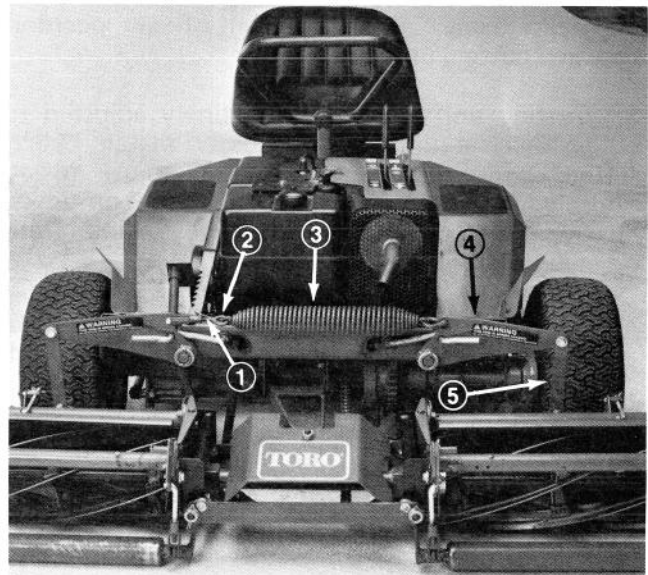

Figure 31
**FRONT COUNTERBALANCE SPRING** is under extreme tension when arms are extended. **GRASP SUPPORT ARMS** when releasing links from cutting units (Fig. 31).
1. Decrease spring tension; loosen jam nut securing hook eye (Fig. 31).
2. Turn hook eye clockwise (Fig. 31).
1. Increase spring tension; loosen jam nut securing hook eye (Fig. 31).
2. Turn hook eye counterclockwise (Fig. 31).
- A. Remove cotter pins securing links to cutting units (Fig. 31).
- B. Grasp each support arm firmly and remove links from cutting units (Fig. 31).
- C. Measure length of spring in relaxed position, note length and install and secure links back onto cutting units (Fig. 31).